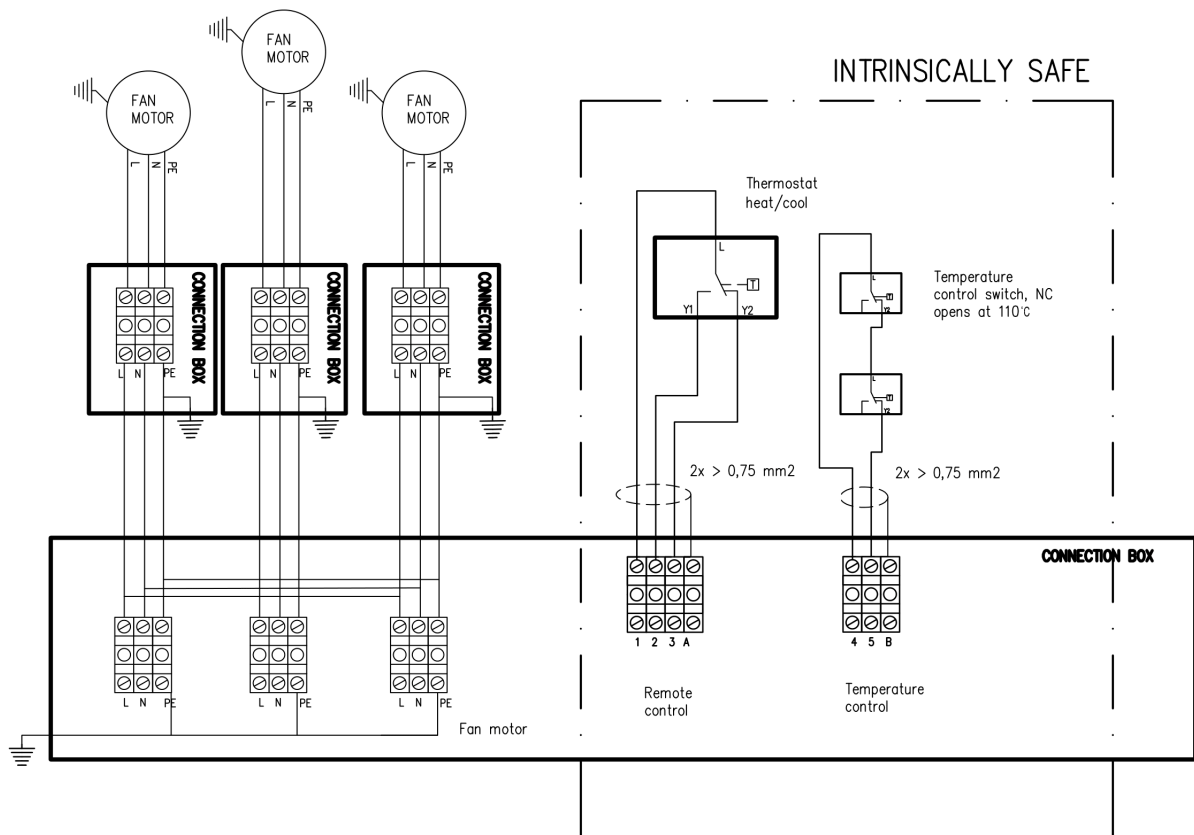

Figure 4. Electrical diagram 230 VAC unit
- Refer to the electric diagram for connection of the power cables to the fan motor(s) and the intrinsically safe circuits to the thermostat and temperature control switches. An example is shown in figure 4.